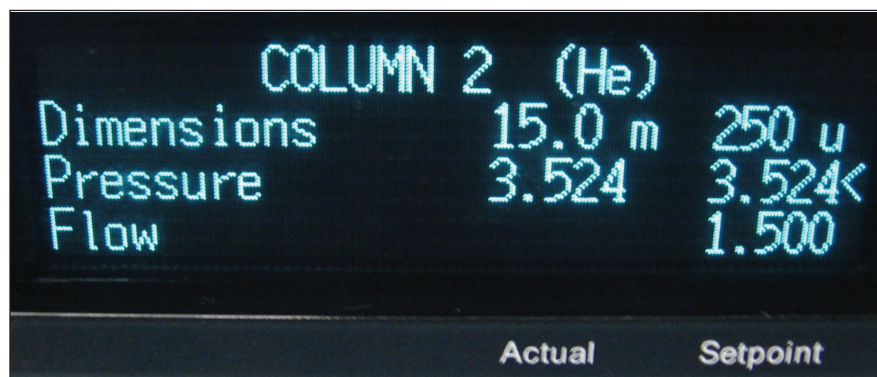

Figure 3. Column 2 (AUX → MSD) conditions: column flow setpoint 1.5 mL/min.
2. Set the Column 2 flow to 1.5 mL/min (constant flow) (Figure 3).